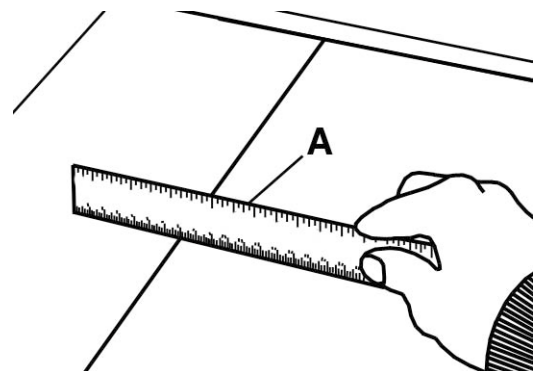

Figure 2
- 3) Before tightening all hardware, place a straightedge (A) Fig.2 on top of the right side extension wing and the laminated melamine extension table. Adjust table up or down to ensure the top of the laminated melamine extension table is set flush with the top of the extension wing. Once adjusted, tighten all hex. bolts.